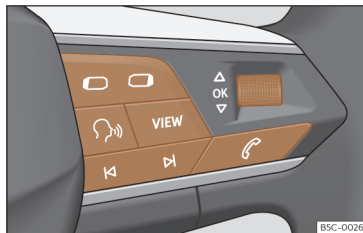

Fig. 8 Right side of multifunction steering wheel: buttons to the menus and informative indications on the instrument panel (depending on the version).
As long as a priority 1 >>> page 19 warning is active, it will not be possible to access any menu. Some warnings can be confirmed and hidden with the button **OK** of the multifunction steering wheel >>> **Fig. 8**.
- If a message or vehicle symbol is displayed, press the button **OK** >>> **Fig. 8**; several times if necessary.